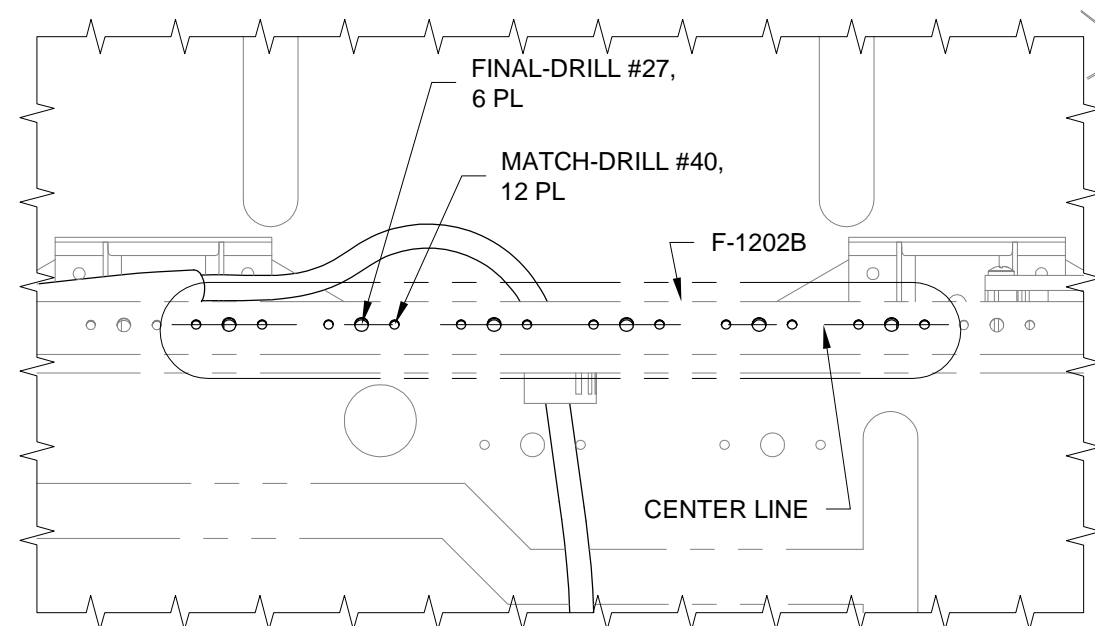

FIGURE 2:
Step 4: Final-Drill #27 the center six holes in the F-1202B Panel Base. See Figure 2.
Draw a center line across the center of the six #27 holes to help in orienting the nutplates for the next step. See Figure 2.